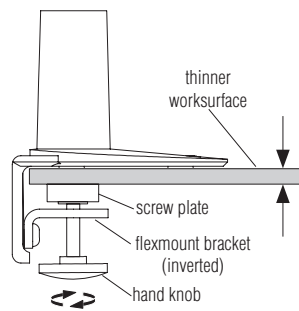

Figure 2
B. Rear-mounted using hand-knob to the back of a 1" and thinner worksurface (Figure 2).